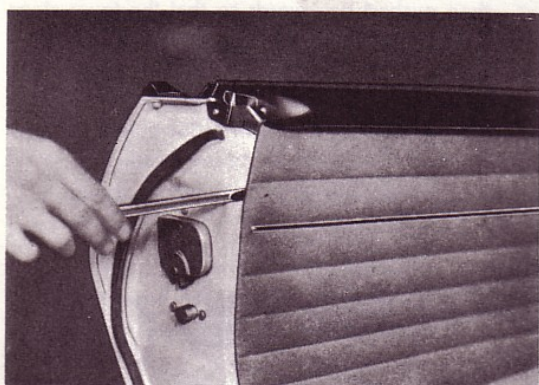

Fig. 9. Removing door upholstery.
3. Remove the upper door panel by carefully applying a screwdriver or similar under the edge of the upholstery and prising outwards as shown in Fig. 9. When the clip has released from the door, the upholstery is removed upwards.
1. Release the stop for the upper position of the winding window, see Fig. 9.